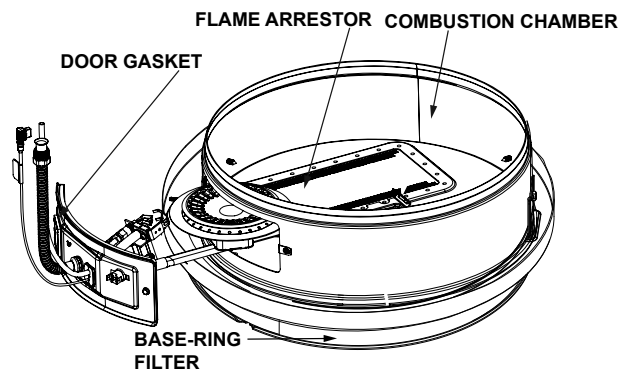

FIGURE 30.
3. Insert the manifold/burner assembly into the burner compartment, making sure that the tip of the manifold tube engages in the slot of the bracket inside the combustion chamber (Figures 30 & 31).